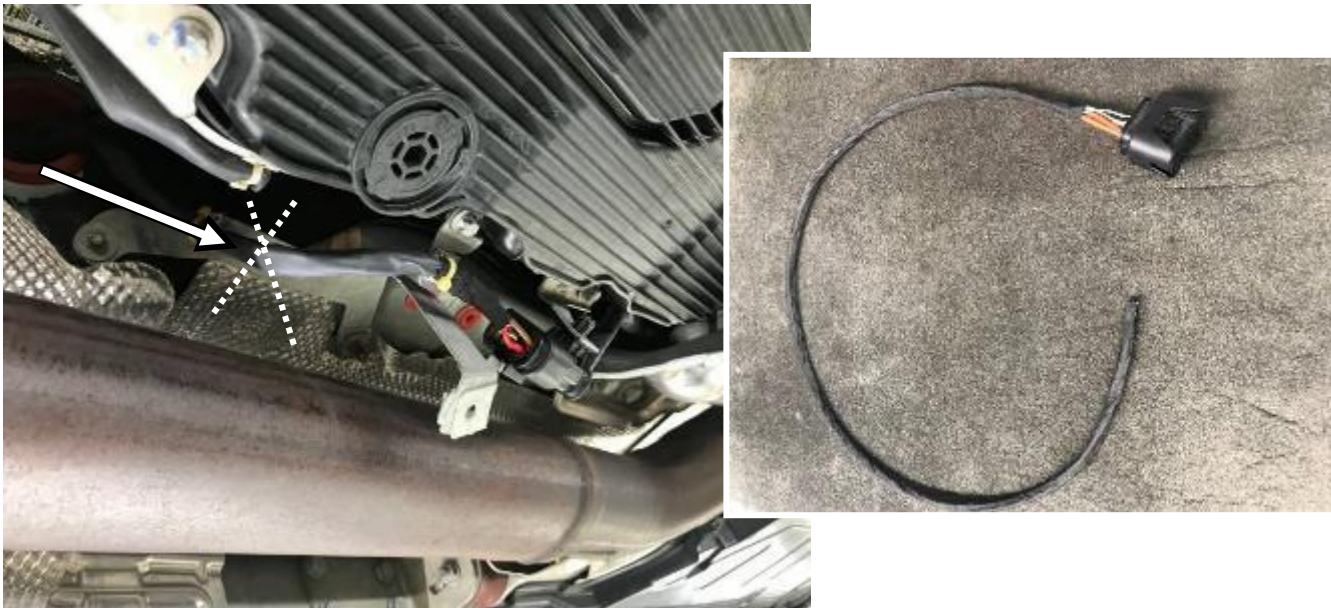

Figure 11
2. Disconnect vehicle-side wiring harness in marked area and strip, (see Figure 11).